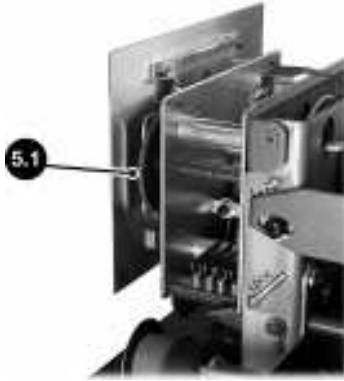

Figure 5
5. Rotate the **Clock Face Setting Wheel – 5.1, Figure 5 on page 8**, to set the hands to match the time set on the wheels.